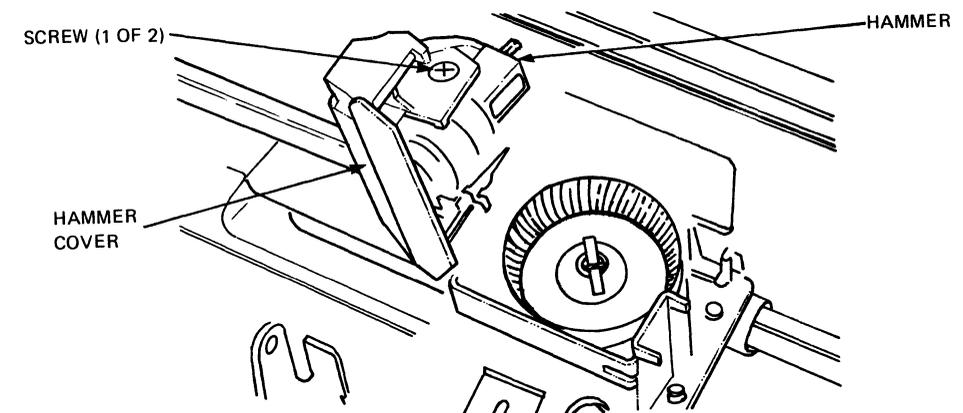

Figure 4-5 Hammer Removal
- g. Remove the two screws securing the hammer to the hammer cover (see Figure 4-5).